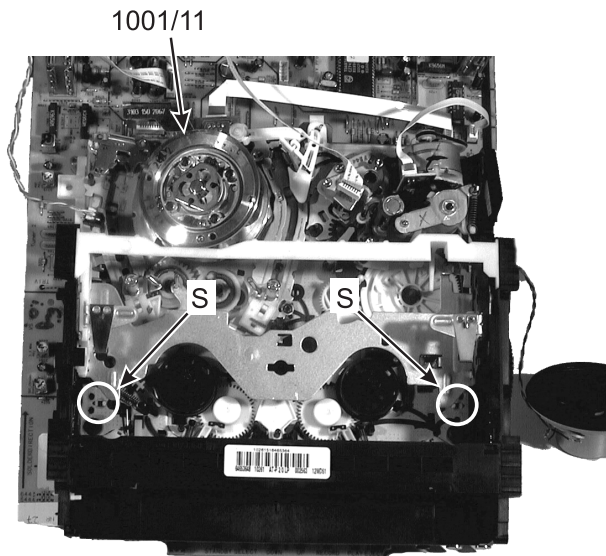

Figure 4-9
1. Remove earthing screw 1001/11 (see figure 4-9).
3. Lift the drive backwards slightly in order to remove the plug connection to the capstan motor. Press together the 2 snap-on hooks (S) with pointed pliers and lift the drive (see figure 4-9). The drive can now be separated from the motherboard.